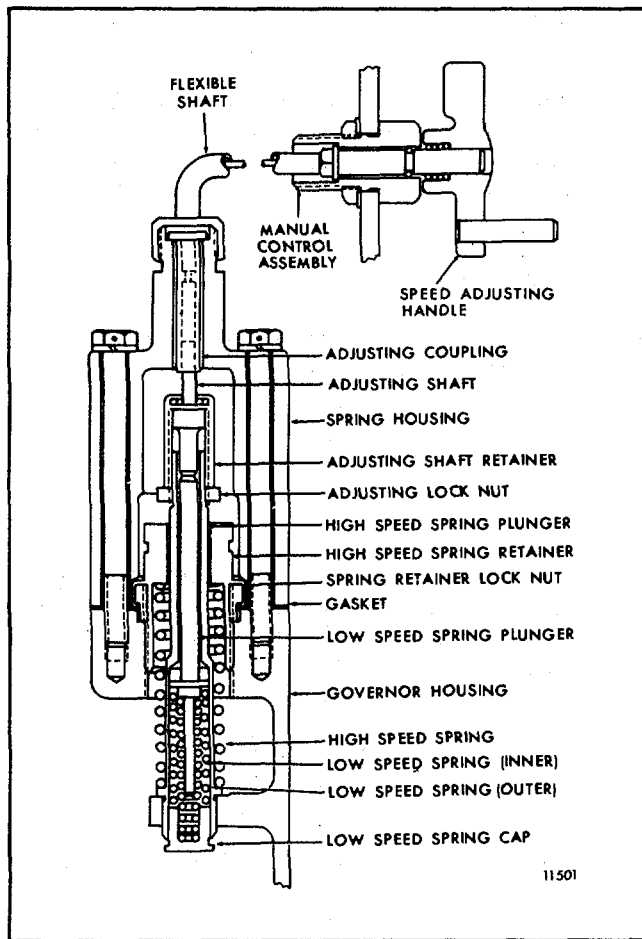
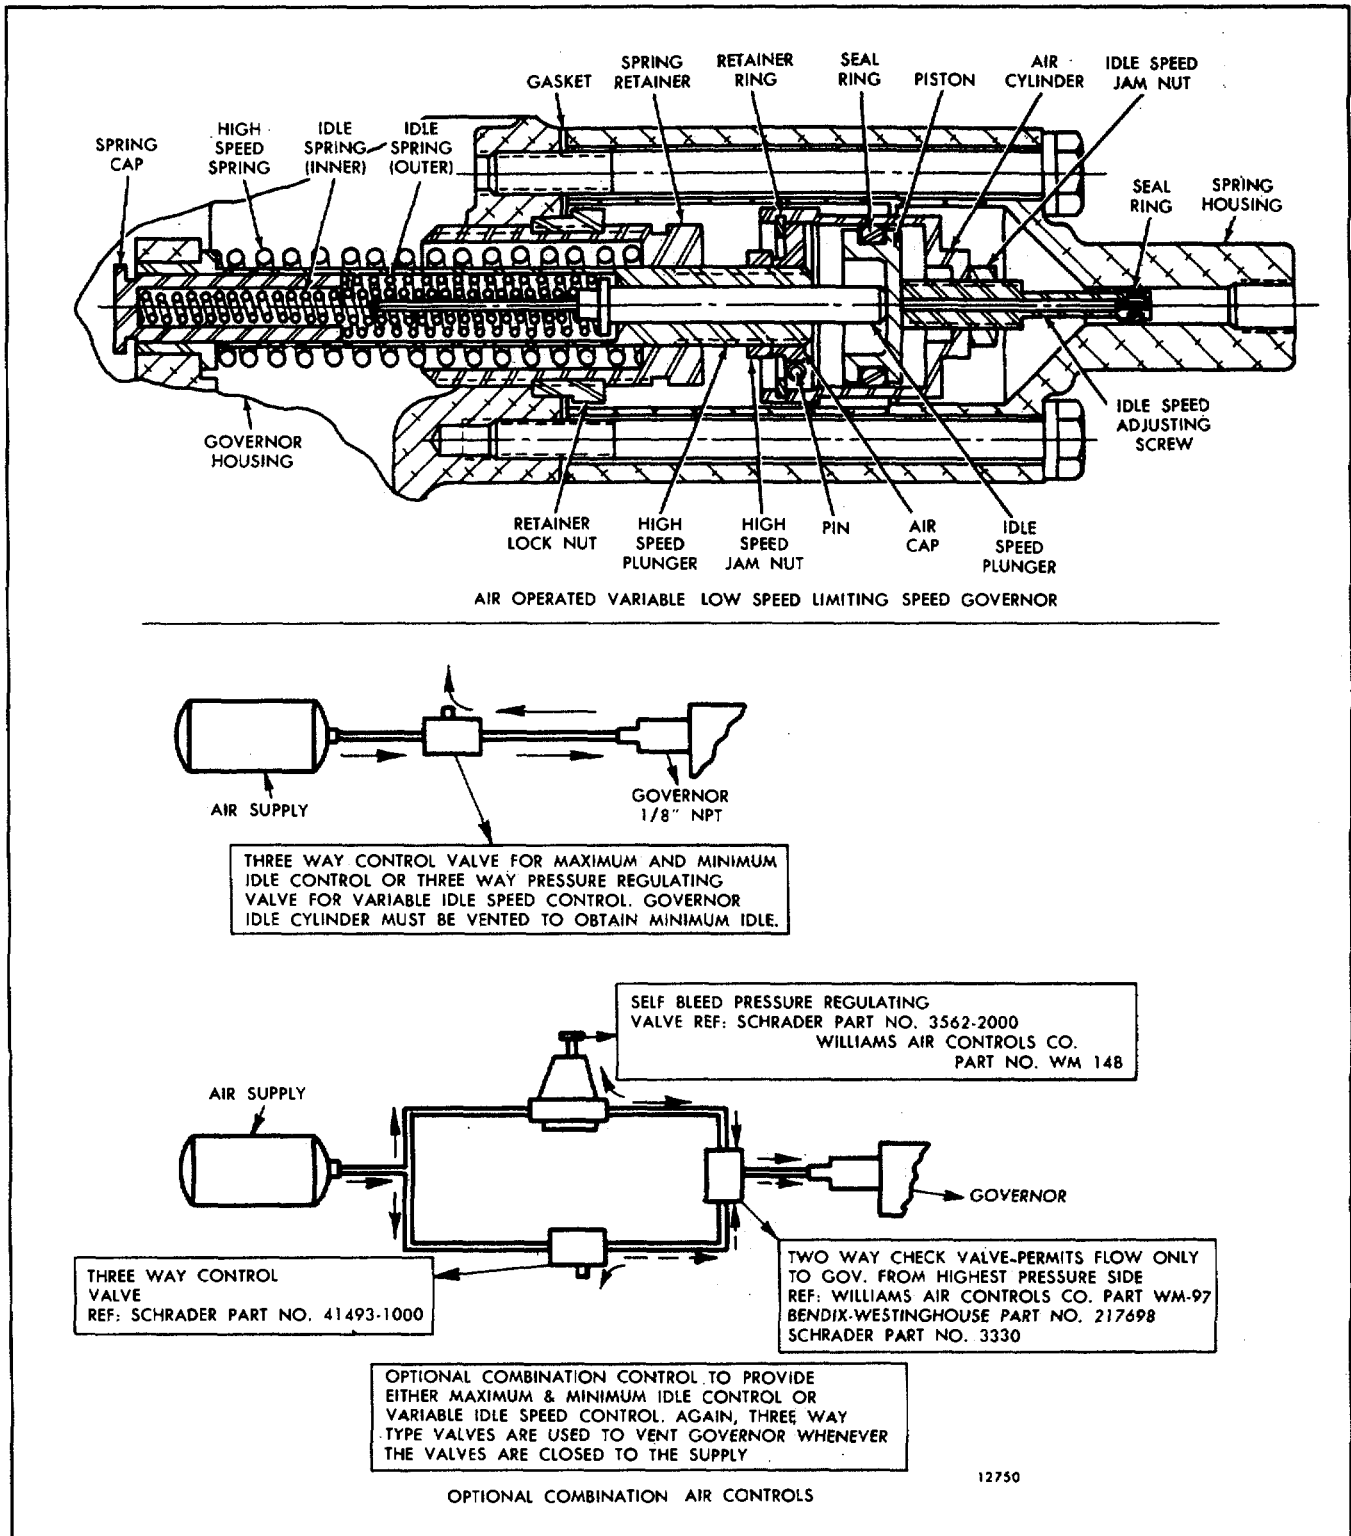

FIG. 1 - Cable Operated Governor Spring Housing and Components
FIG. 3 - Air Operated Variable Low Speed Limiting Speed Governor and Sir Controls
- b. Raise the connecting pin up in the control link operating lever (Fig. 1). Insert the end of the fuel rod between the two bosses on the lever and insert the connecting pin through the fuel rod and into the lower boss.
During highway operation, the governor functions as a limiting speed governor, controlling the engine idling speed and limiting the maximum operating speed. At the unloading area, the throttle is left in the idle speed position and the speed adjusting handle, on the cable operated governor (Fig. 1), is turned to the speed required within the above range to operate the auxiliary equipment. For the air operated governor (Fig. 3), the engine speed is changed to the speed required by increasing or decreasing the air supply pressure to the governor. The governor then function as a variable speed governor, maintaining a constant speed when the load is constantly changing, during the unloading operation. Before resuming highway operations, the speed adjusting handle on the cable operated governor must be turned back to the stop, then turned ahead about one-quarter of a turn. The air operated governor's air supply pressure must be vented before resuming highway operations.
The variable low-speed limiting speed governor is similar to the limiting speed governor with the exception of the spring housing and its components. Therefore, disassemble the governor as outlined in Section 2.7.1, then disassemble the spring housing and its components (Fig. 1) as follows:
its components (Fig. 3) as follows:
then assemble the spring housing and components as follows (Fig. 3):
Install the governor as outlined in Section 2.7.1, then connect the air controls to the governor spring housing (Fig. 3).